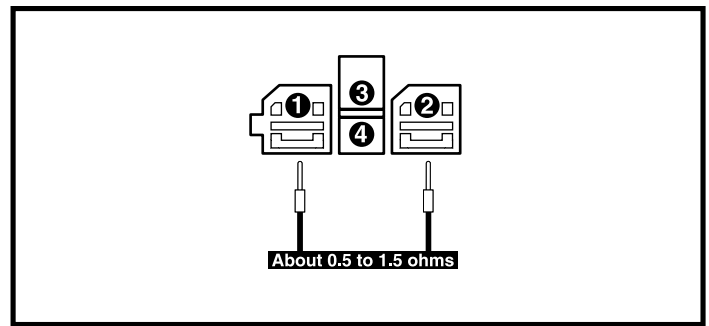
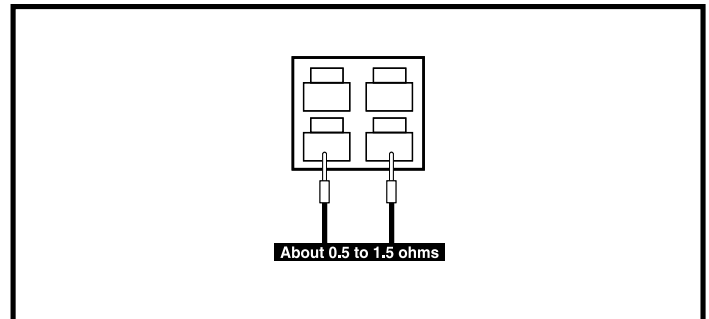
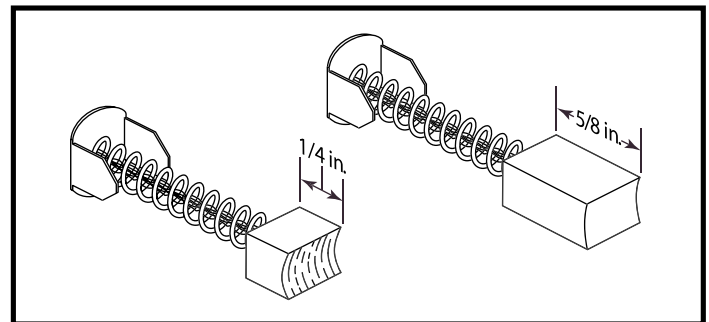

Figure 22. Connector 5b
Figure 23. Connector 12a
Figure 24. Motor Brushes
4. Unplug connector 5b from the power module (6). See diagram 3.
5. Measure resistance across pin 1 and pin 2 on connector 5b. See figure 22.
- If your multimeter indicates about 0.5 to 1.5 ohms, then replace the power module (6) and retest the system.
7. Measure resistance across pin 1 and pin 2 on connector 12a. See figure 23.
- If your multimeter indicates about 0.5 to 1.5 ohms, then replace the left motor interface harness (5) and retest the system.
8. Remove the brushes from the left motor and inspect them. See figure 24.
- If the brushes are not worn below 0.25 and are not physically damaged, then replace the left motor (12) and retest the system.